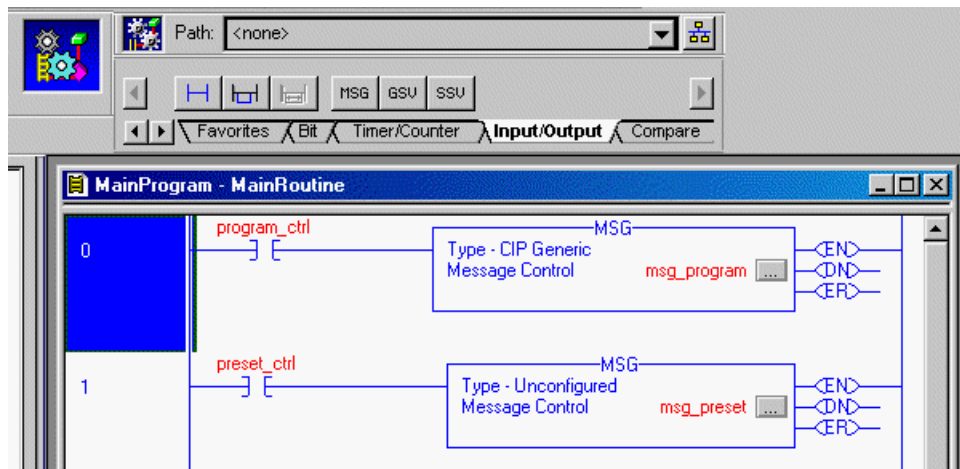

Figure 7.3 Message Instructions
- 5.4) Before you can use the message instruction, you must configure it by clicking on the ellipsis "..." button. Figure 7.3 shows two Message Instructions entered into ladder logic. The Language Element toolbar is docked above the ladder logic window with the Input/Output tab selected. Note that the first message shows a type of "CIP Generic" and the second shows "Unconfigured".